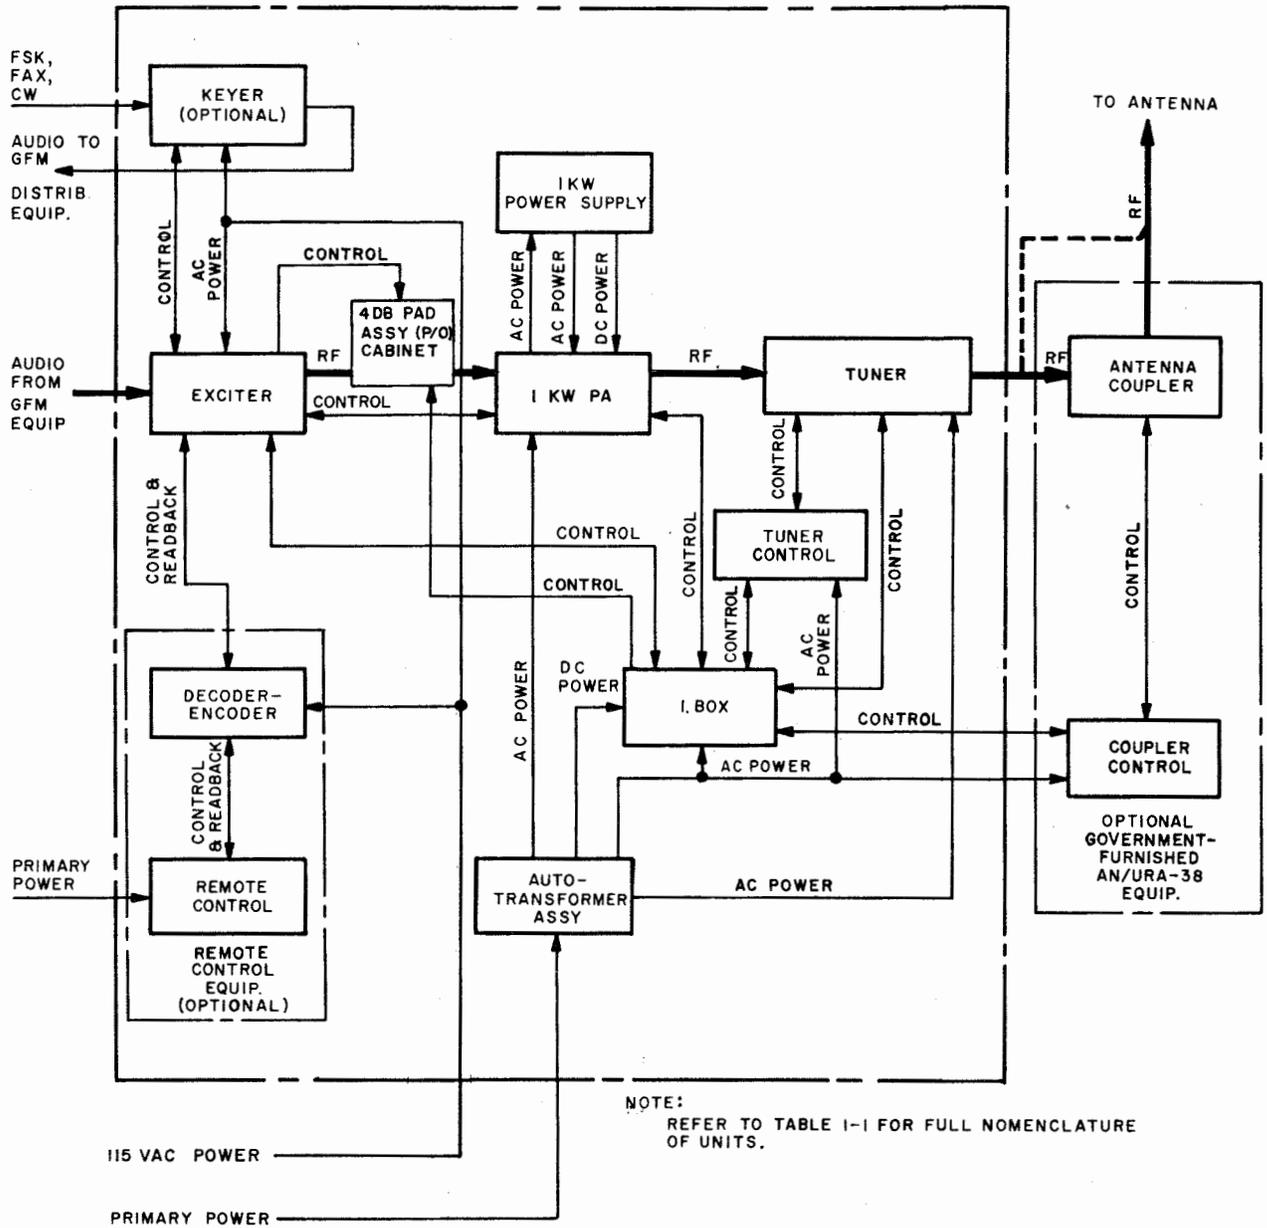

Figure 4-1. Radio Transmitting Set AN/FRT-83(V), Overall Functional Block Diagram
**4-8 PROBABLE FAULTY CIRCUIT.** The next step in a logical troubleshooting procedure is to make a tentative decision, based on results of the symptom investigation, as to the most likely circuit at fault. The decision should be based upon the trouble symptom and a thorough knowledge of the equipment circuits, and should be limited to those circuits which, if defective, could probably cause the trouble. The functional block diagram (figure 4-1) together with the over-all functional descriptions should be used to aid in the determination of the possible faulty circuit.
**4-13 RADIO TRANSMITTING SET AN/FRT-83(V).** Figure 4-1 illustrates the functional interrelation of units in a typical AN/FRT-83(V) configuration.